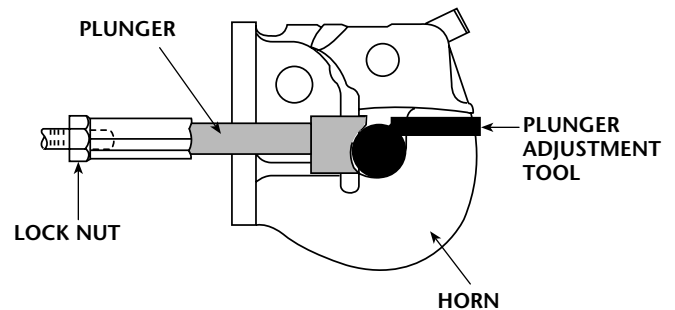

Figure 1
1. Place tool, TF-03147, over horn of pintle hook as shown in Figure 1.
3. Adjust air cylinder so plunger just contacts adjustment tool and the tool will not move when rotated or twisted by hand (see Figure 1).